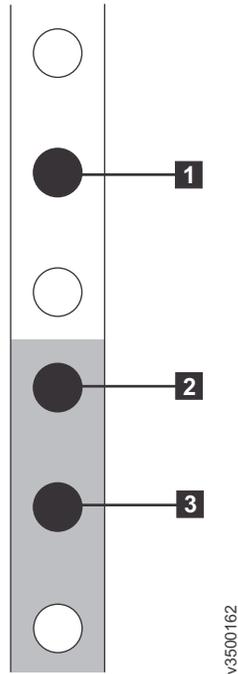

Figure 9. Hole locations in the front of the rack
4. Working at the front of the rack cabinet, identify the two standard rack units (2U) of space in the rack into which you want to install the support rails. Figure 9 shows two rack units with the front mounting holes identified.